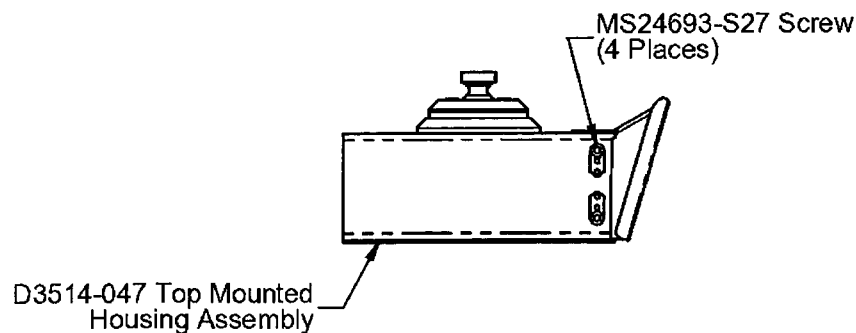

Figure 3.3.5 – Screws for Mounting GPS Unit
3.3.7 Install the GPS unit (not included in this kit). Install the GPS Mounting Box into the D3514-047 Top Mounted Housing Assembly using the qty (4) MS24693-S27 screws and the nutplates mounted on the D3514-047 Housing Assembly as shown in **Figure 3.3.5**.